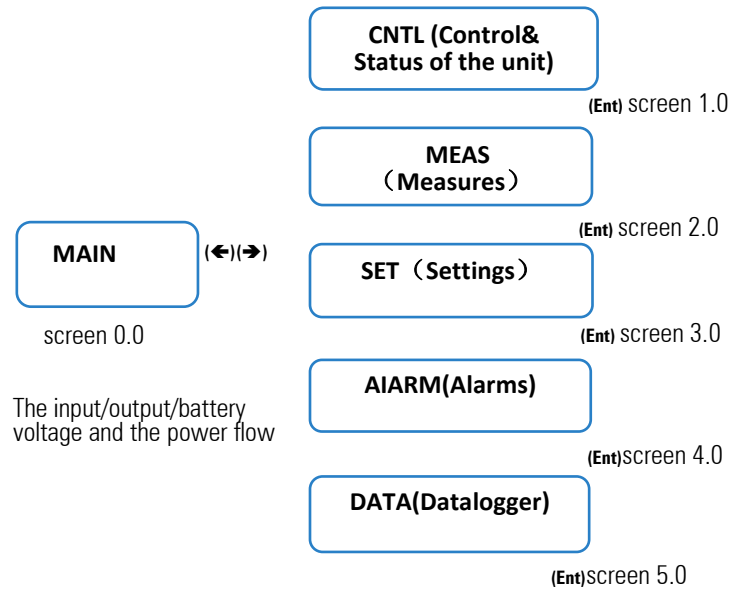

Fig. 41. Display messages menus and classification in submenus
- Notes related with the screen map (see Fig. 41):